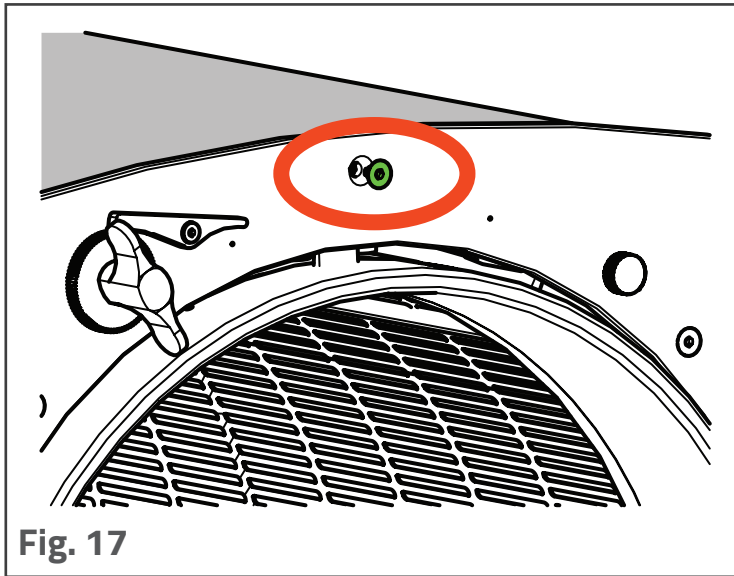

Fig. 17
3. Remove screw securing top panel to main body (see Fig. 17 top of page 18).